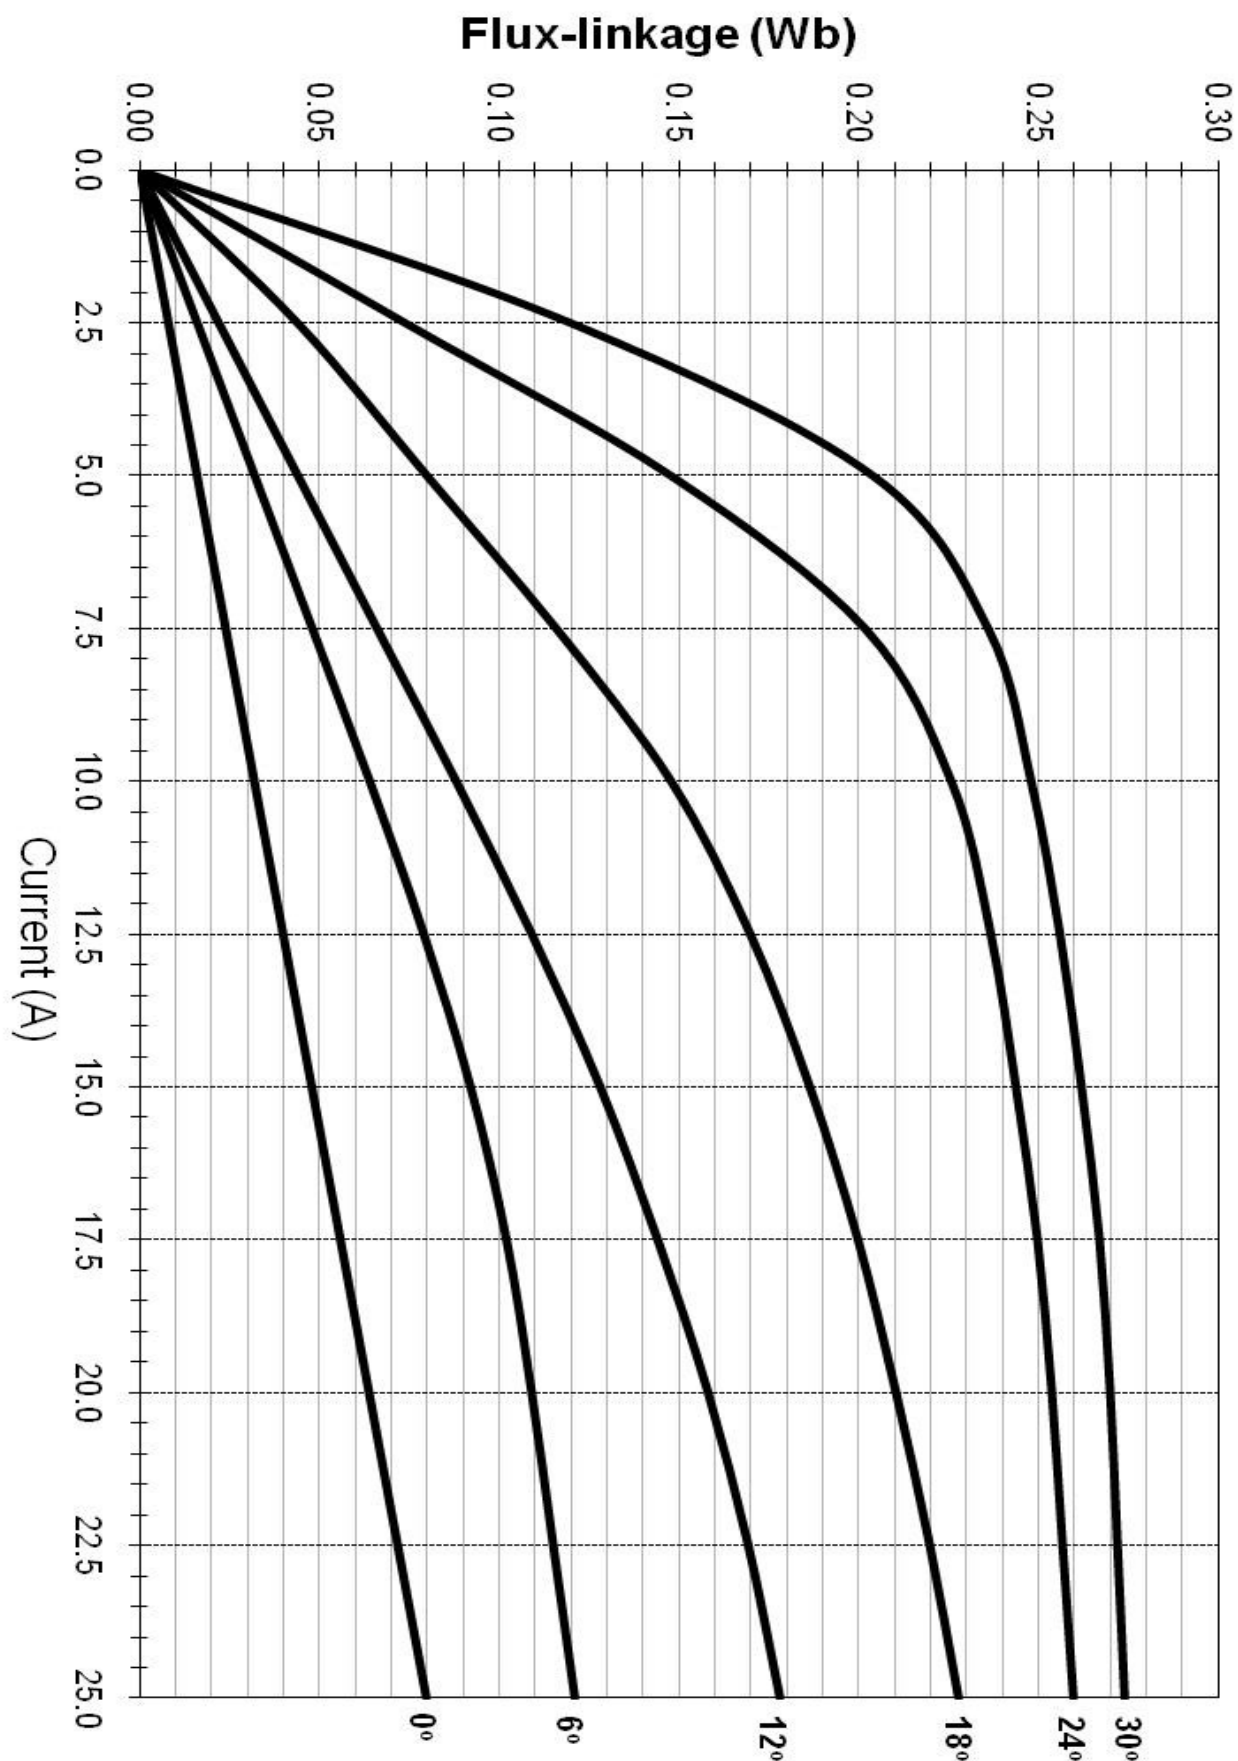

Figure 3 Measured flux-linkage versus current characteristics for one phase of a three-phase switched reluctance machine with 6 stator teeth and 4 rotor teeth
2. a. Starting from the Kron primitive equivalent of a non-salient three-phase, squirrel cage induction motor, derive the voltage equations and a corresponding exact equivalent circuit for steady-state operation with a sinusoidal AC supply. (8)
- i) Calculate the magnetising reactance per phase of the machine (you may assume that the magnetising current is small in comparison with the total input current drawn at rated load). (2)
- ii) Calculate the resistance per phase which is incorporated into the equivalent circuit to represent the core loss. (2)
- iii) Calculate the no-load core losses. (1)
- iv) Calculate the speed at which the machine is rotating at rated load. (4)
- v) Calculate the rated torque of the machine. (3)
3. A 3-phase switched reluctance (SR) machine has 6 stator teeth and 4 rotor teeth. Each phase consists of two series connected coils. Figure 3 shows the measured variation in the flux-linkage of one phase with current at a series of discrete rotor angular displacements *which correspond to the normal stroke during which the phase is normally excited* to produce torque. (Note: An angular displacement of 30° on the scale of Figure 3 corresponds to the rotor being fully-aligned with stator teeth of the phase).
- a. Calculate the average torque produced by the machine over the 30° angular excursion to the aligned position for currents of 5A and 12.5A. (7)
- b. The machine has an airgap between the rotor and stator of 0.5mm in the aligned position. Estimate the number of series turns per phase if the stator and rotor core material begin to saturate at $\sim 1.5\text{T}$. (3)
- c. Calculate the maximum and minimum value of the phase self-inductance, taking care to define the rotor angle and current at which you calculate these two values. (3)
- d. Calculate the peak induced phase emf when operating with a current of 12.5A at a constant speed of 3000 rpm (you **need not** plot the variation in flux-linkage versus rotor angular displacement unless you wish to do so to calculate the emf). (3)
- e. In practice, the SR machine whose flux-linkage versus current characteristic is shown in Figure 3 is operated from a constant voltage source. Sketch a typical dynamic flux-linkage versus current characteristic for the period up to commutation and a separate characteristic following commutation. (3)
- f. List any factors which influence the selection of the commutation angle for dynamic operation. (1)